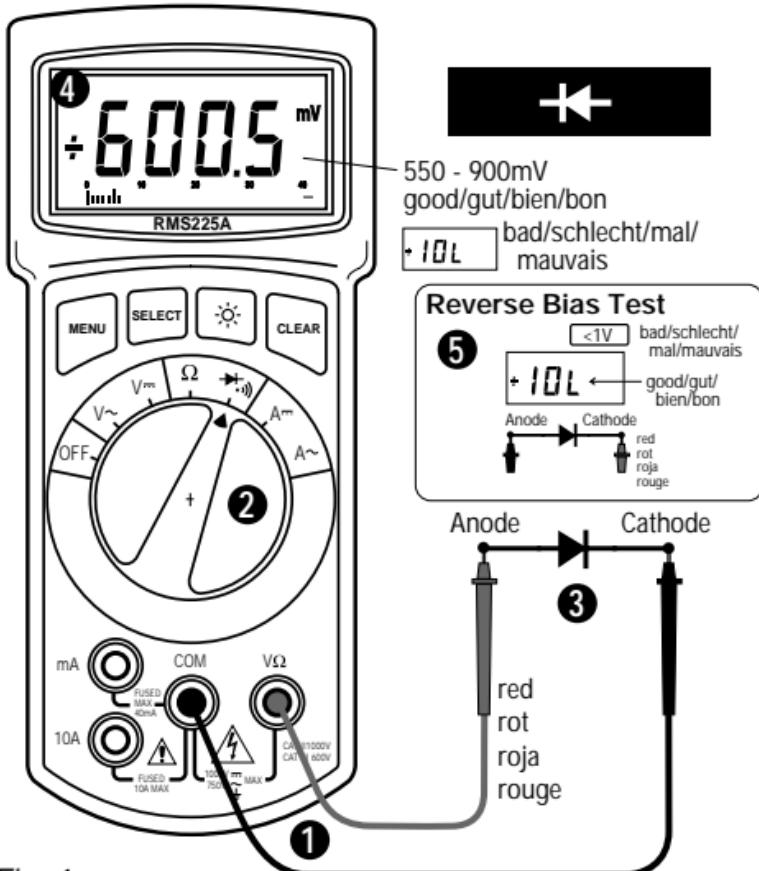

Fig. 4
DIODE AND CONTINUITY TEST (See Fig. 4)
The diode test measures the voltage drop across a diode junction. ❶ Connect the test leads as shown in figure 4. ❷ Set the Function/range switch to  . ❸ Apply probe tip of red lead to the anode and of black lead to the cathode of the diode. ❹ The meter's display indicates the forward voltage drop (approx. 0.6V for silicon diode or 0.4V for germanium diode). An open diode is indicated by "I OL". ❺ Reverse test lead connections to the diode to perform a reverse bias test. "I OL" indicates a good diode. **Notes:** "I OL" for both reverse and forward bias tests indicates an open diode. A low voltage reading for both bias tests indicates a shorted diode. If the diode is shunted by a resistor of 1000 ohms or less, it must be removed from the circuit before taking the measurement. Bipolar transistor junctions may be tested in the same manner described above as emitter-base and base-collector junctions are diode junctions.